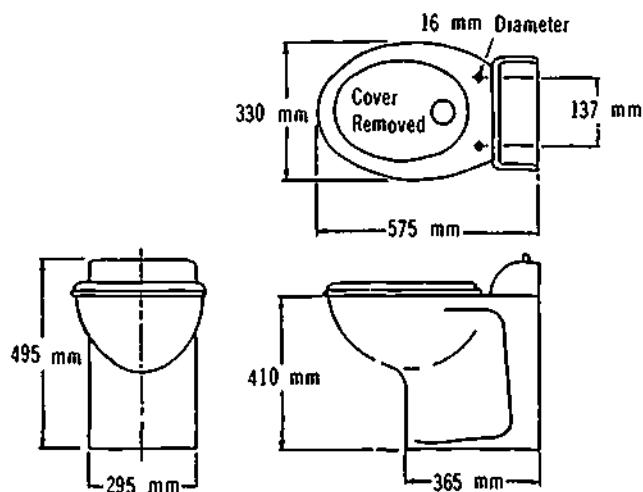

Figure 37-30. Vacuum Toilet
96. The vacuum toilet (Figure 37-30) is manufactured from vitreous china exclusively for the Electrolux vacuum sewerage system. It uses only one litre of water for a flushing, mainly to clean the china bowl and maintain a pool of water at the bottom. The vacuum toilet is operated by the vacuum within the system and takes in 0.1 m³ of air with each flush.